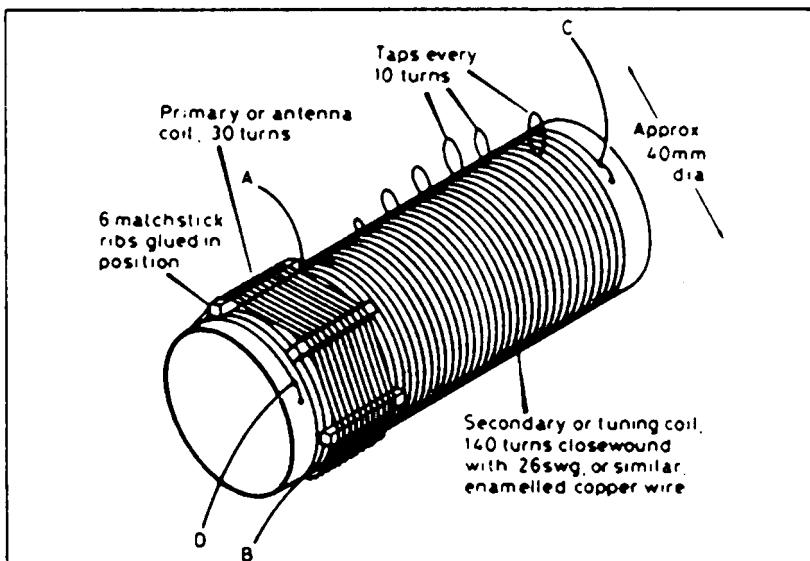

Figure 2 The coil is mounted on a cardboard tube as shown. Exact size is not too important. Try different taps for best results
Winding the coil always causes the most groans but when finished, gives the most satisfaction. The construction of the coil is detailed in Figure 2. A discarded toilet roll centre is an ideal *former* on which to wind the coil. The coil will take up about 7 cm of the length of the tube, so assuming the tube is about 11 cm long, the ends of the coil will be about 2 cm in from each end of the tube.
- Looking at Figure 2, make two small holes about 3 mm apart, about 2 cm down from the top of the tube, where wire C will be entering. Poke the end of the wire into one hole, then bring it out again through the other; leave about 10 cm of wire on the free end. Loop this wire in and out once more, thus anchoring the wire firmly.